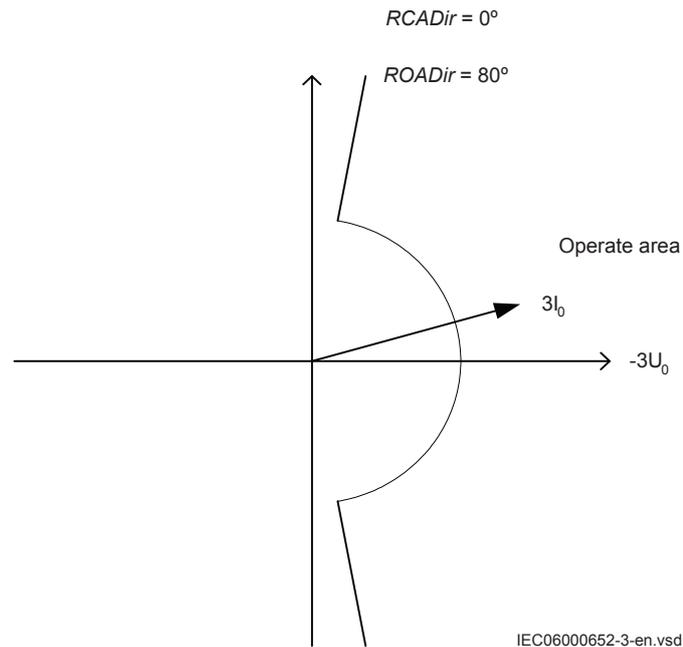

Figure 71: Example characteristic
4. Compare the result with the set values, refer to figure 71 for example characteristic.